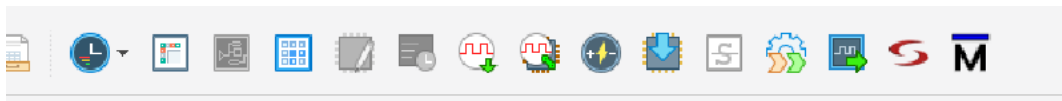

Figure 5.11. Simulation Button Icon
1. Click the  button located on the toolbar to initiate the **Simulation Wizard** on the top of the Lattice radiant software as shown in Figure 5.11.